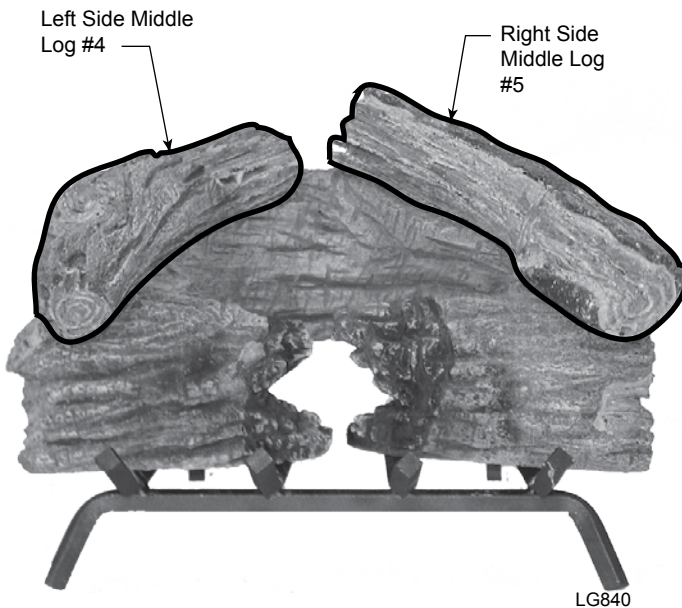

Figure 20 - Place Right and Left Side Middle Logs
- Place left side middle log #4 as shown. *Figure 20*
- Place right side middle log (#5). *Figure 20*